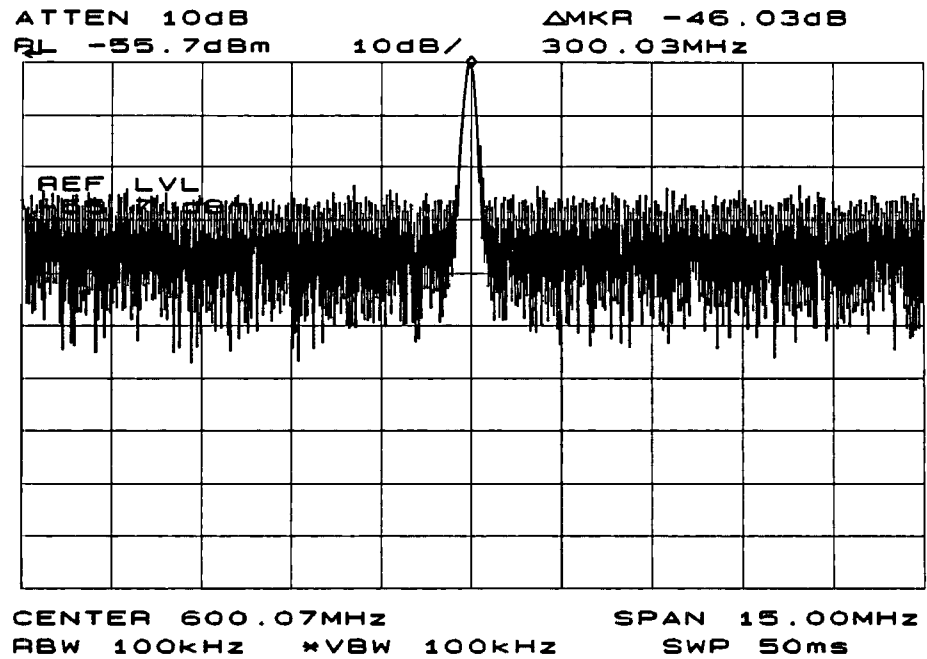

Figure 3-14. Second Harmonic Displayed in dBc
2. To measure the second harmonic, press **MARKER DELTA**, **FREQUENCY** and the **↑** step key. This step retunes the spectrum analyzer center frequency to the second harmonic. Adjust the harmonic to the reference level. This displays the amplitude of the second harmonic as shown in Figure 3-14. The difference between the second harmonic and the fundamental can be converted to